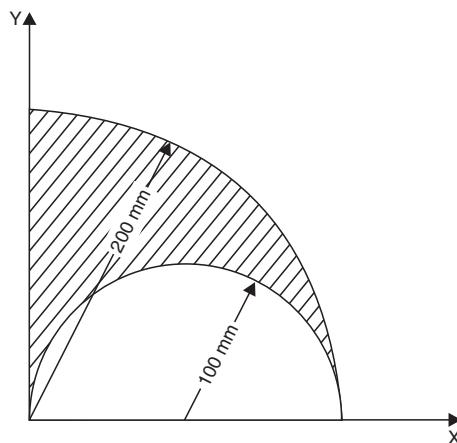

Fig. 7.53
16. Find the co-ordinates of the centroid of the area obtained after removing a semicircular of radius 100 mm from a quadrant of a circle of radius 200 mm. (See Fig. 7.53). [Ans. 69.8 mm, 127.2 mm]